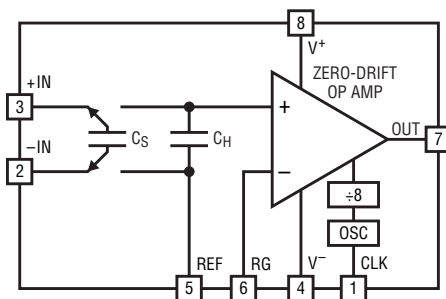

Figure 1. LTC2053-SYNC instrumentation amplifier includes an external clock input for sample rate control.
The LTC2053 is a highly popular precision instrumentation amplifier for differentially acquiring DC or low-frequency signals—it's popularity is mainly due to its offset uncertainty below 10 μ V worst case and DC common-mode rejection of 116dB. It owes its high performance to a switched-capacitor front-end that drives a Zero-Drift (ZD) operation amplifier (shown in Figure 1). The LTC2053 incorporates a fixed-frequency timing generator to coordinate the switched-capacitor activity. The nominal input sampling rate, f_s , is 3kHz, which is not necessarily ideal for all applications.
Figure 1 shows a simple battery-operated temperature monitor that outputs a frequency proportional to temperature. The beauty of the circuit lies in its simplicity and low power draw: a mere 27µA typical at room temperature, and 50µA max over the industrial temperature range—low enough to run from a pair of 1800mAh AA batteries for over four years. The circuit maintains operation with supply voltages as low as 2.5V.